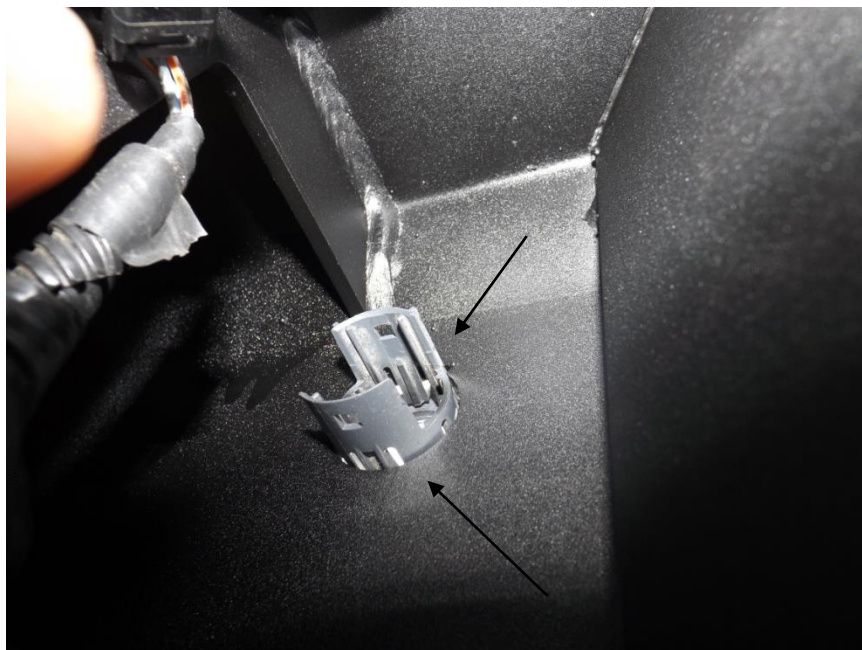

Figure 2
- B. FOR SENSOR BUMPER INSTALLATION: Install sensor housings in bumper, lining up plastic protrusions of the housing with the top of the sensor profile cuts. Following instructions on epoxy and making sure sensor housings are flush, apply epoxy to inside face of bumper where housing sticks through (ref. figure 2).**